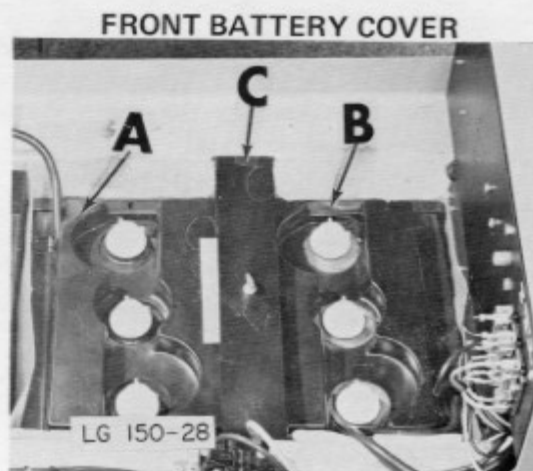

Figure 32
7. Place the plastic cover "A" Fig. 32 over the batteries and **inside** the bag, making sure the battery cables go through the end slots of the cover.
8. Place the hold-down clamps "B" Fig. 32 along the sides of battery cover but outside of the bag so the bag is held captive **between** the clamps and the cover.